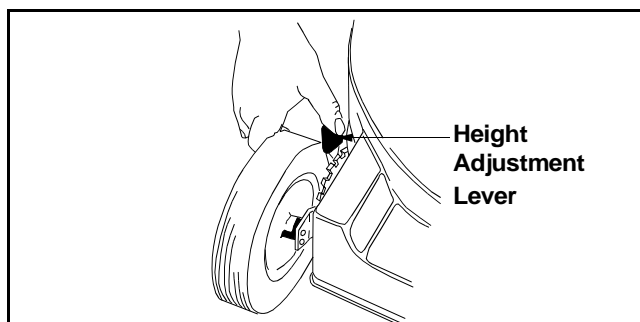

Figure 18
- Simply depress the lever towards the wheel and move the lever assembly to desired position. See Figure 18.